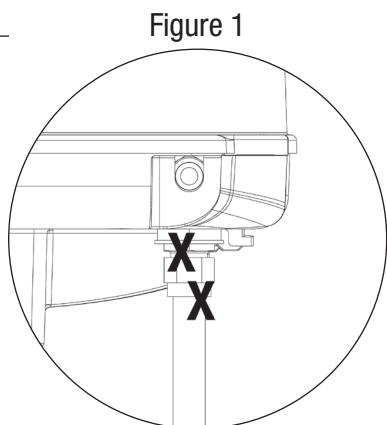

Figure 1
4. Spoon several drops of solution, or use a squirt bottle, at all "X" locations (Figures 1 and 2).